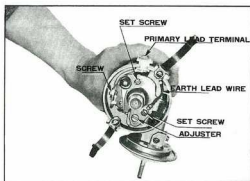

Fig. EE-85 Breaker
Standard size of point gap is 0.45 - 0.55 mm. In case size is off the standard, adjustment is required by loosening point screws (1) & (2) (Fig. EE-85). Gap gauge is required for adjustment. However, without gap gauge it can be adjusted by holding down the contact arm of which the stopper is 0.5 mm thick.
As for those with tungsten point, point gap must be checked at every 4,000 km run. Adjust it to size required in case it is off the standard. When surface of the point is not smooth, fine sand paper No. 500 or 600 or oily whetstone must be applied for smoothing. At this time, grease must be supplied to heel. In case wearing of point is remarkable, it must be replaced with a new one. In this case, contact arm and contact point are also to be replaced with. Details for replacement is as undermentioned. First loosen by 1 - 1.5 time of screw at contact arm and primary lead wire connection part to pull out primary lead terminal. In this case, however, notice not to loosen the screw excessively. Refer to Fig. EE-85.